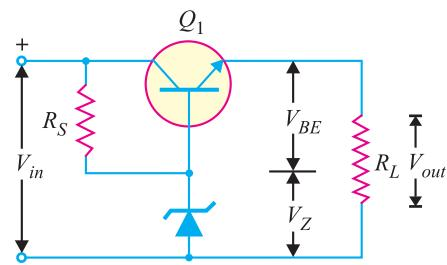

Fig. 17.13
Figure 17.13 shows a simple series voltage regulator using a transistor and zener diode. The circuit is called a series voltage regulator because the load current passes through the series transistor  $Q_1$  as shown in Fig. 17.13. The unregulated d.c. supply is fed to the input terminals and the regulated output is obtained across the load. The zener diode provides the reference voltage.
**Operation.** The base voltage of transistor  $Q_1$  is held to a relatively constant voltage across the zener diode. For example, if 8V zener (*i.e.*,  $V_Z = 8V$ ) is used, the base voltage of  $Q_1$  will remain approximately 8V. Referring to Fig. 17.13,
**Example 17.12.** For the circuit shown in Fig. 17.13, if  $V_Z = 10V$ ,  $\beta = 100$  and  $R_L = 1000 \Omega$ , find the load voltage and load current. Assume  $V_{BE} = 0.5V$  and the zener operates in the breakdown region.